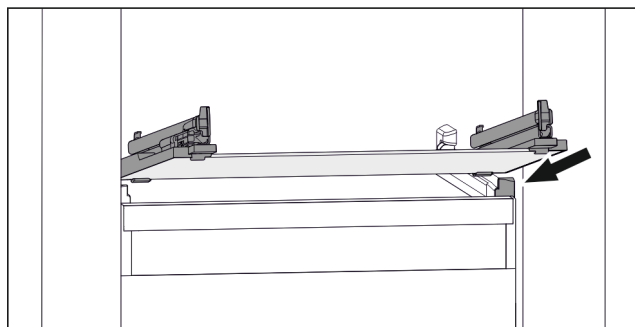

Fig. 168 Example illustration of glass shelf
- ▶ Position glass shelf at an angle behind the stoppers. (see Fig. 168)